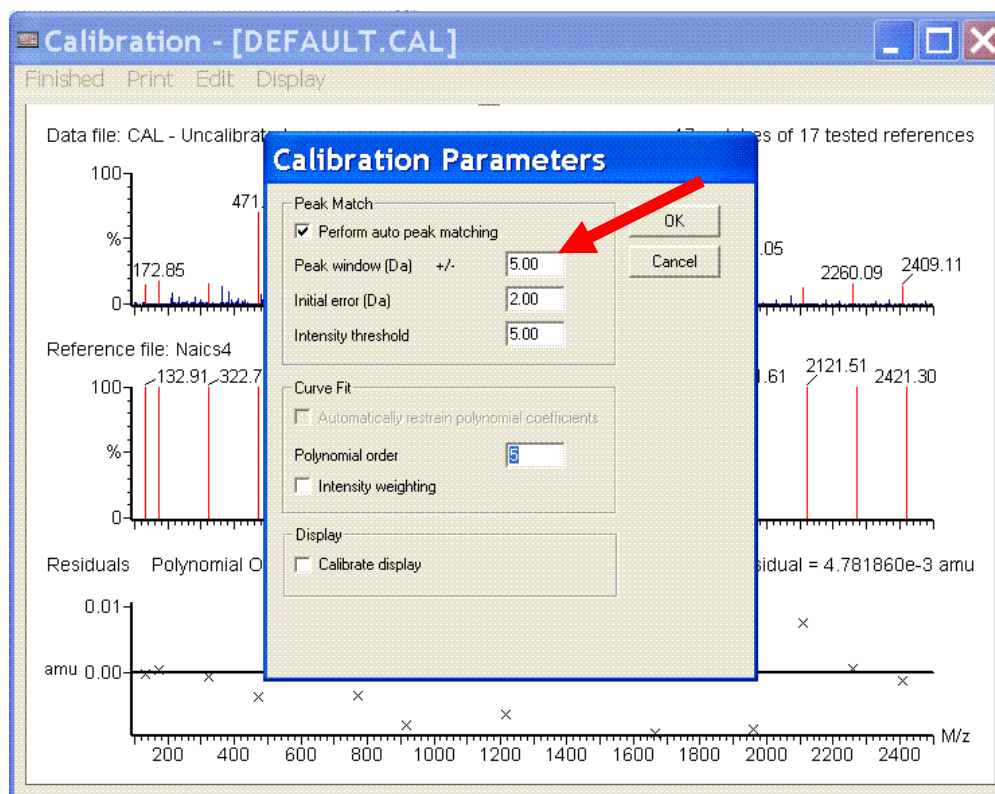

Figure 19
13. If the number of Matches with respect to Tested References is not satisfactory, you can adjust the parameters by choosing Parameters from the drop down menu from “EDIT” (Figure 19). Adjust the Peak window +/- values, then click “OK”